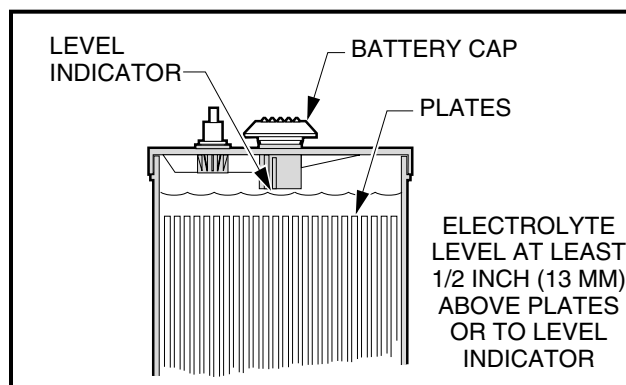

Figure 26 Battery Electrolyte Level
2. The electrolyte level in the batteries should be checked weekly (**Figure 26**). Add water only after charging unless the electrolyte level is below the top of the plates. In this case, add just enough water to cover the plates, charge and then check the level again. Never charge batteries if plates are exposed above electrolyte level. For best battery life, add only distilled water. **See following NOTE.**